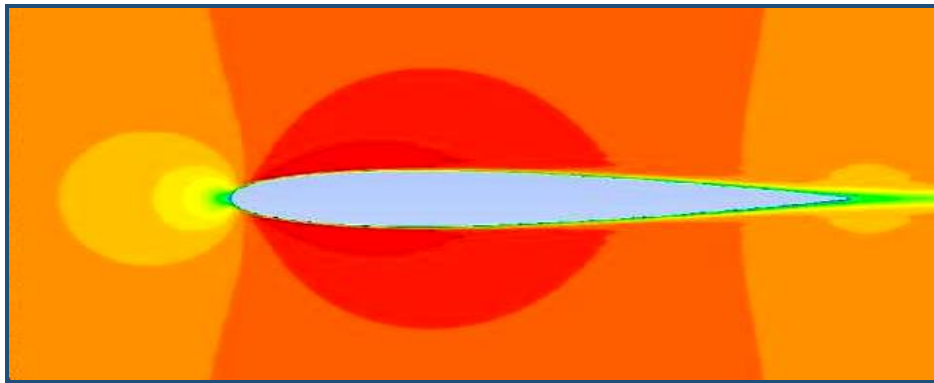

Figure 5.1: Flow over a symmetric aerofoil
5. Analyze the results using the Ansys CFD post to get the flow contour as shown in Figure 5.1.